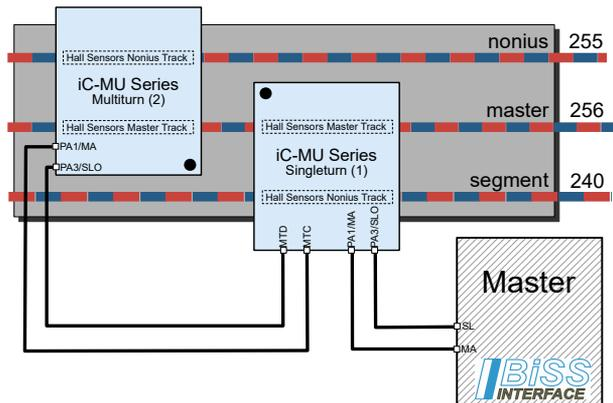

Figure 43: 3-track nonius with 2 iC-MU200
The construction of such a system is shown as an example in Figure 43 and the configuration in Table 71.
To facilitate the initial configuration of an iC-MU200 as a SSI multitrans device the command SWITCH can be used (see page 60). The singleturn iC-MU200 (1) in Figure 43 has to enable the direct communication to the multitrans sensor by setting GET\_MT to 1. The configuration of iC-MU200 (2) can take place using the BiSS protocol. After the configuration of the external multitrans MODEA\_NEW and RPL\_NEW are used to set the target configuration of MODEA and RPL. After that the command SWITCH is executed. By reading STATUS1 it is possible to control if there was an error while executing the command. After the next startup or after the execution of the command SOFT\_RESET iC-MU200 starts with the interface configured with MODEA\_NEW and RPL\_NEW.